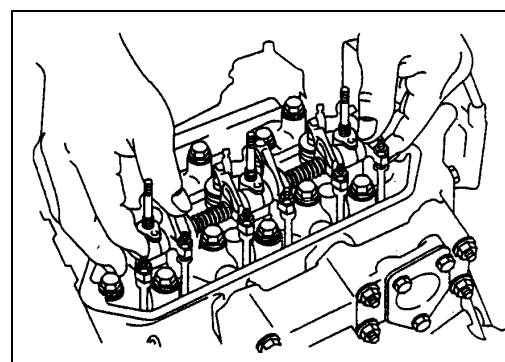

Fig. 7
- [5] Mount the stem cap on the valve and then mount the rocker shaft assy. See Fig. 7.